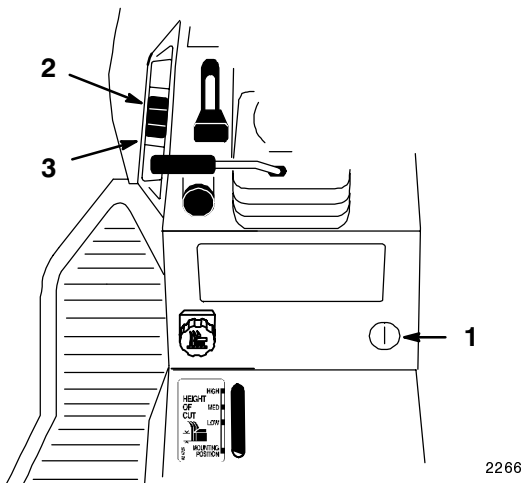

Figure 18
The attachment power lift (on some models) (Fig. 18) is used to raise and lower attachments.
1. Turn key to the “ON” or “RUN” position (Fig. 18).
2. Push the lift switch in the “UP” direction to raise the attachment lift (Fig. 18). This will lift and hold the attachment in the up, or raised position.
2. Push the lift switch in the “DOWN” direction to lower the attachment lift (Fig. 18). This will lower the attachment lift.